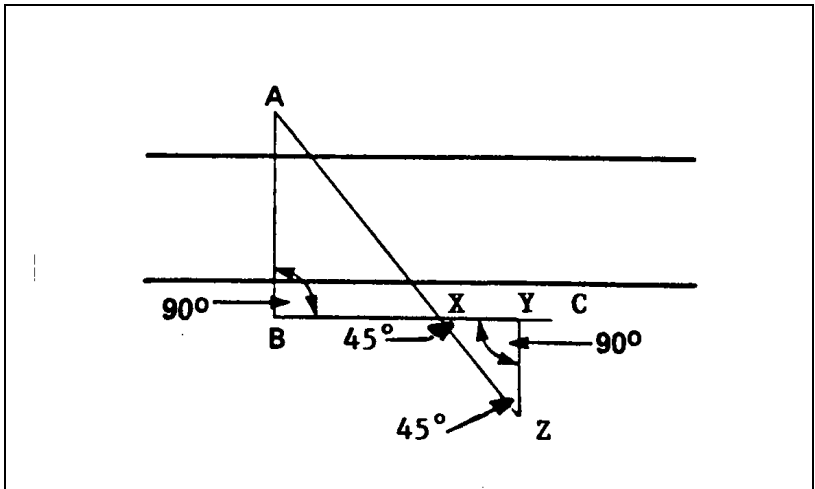

Fig 11-3-11 Measuring a Gap
15. **Method 2 - Using Proportional Right-Angled Triangles.** Where it is difficult to get a clear line of vision back from the near bank this method may be used. The method is only approximate and requires three personnel (Fig 11-3-11).